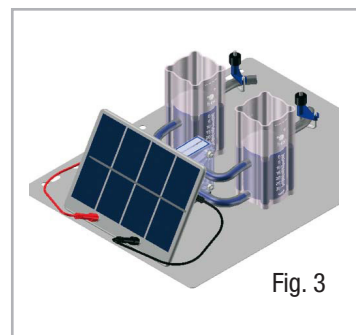

Fig. 3
5 . Connect the solar module to the corresponding connections on the electrolyzer using the connecting cables (Fig. 3). Ensure the correct polarity (**red** = “+”, **black** = “-”)!
- 6 . Connect the solar module to the connections on the electrolyzer using the banana cables (Fig. 3). Ensure the correct polarity (**red** = “+”, **black** = “-”)